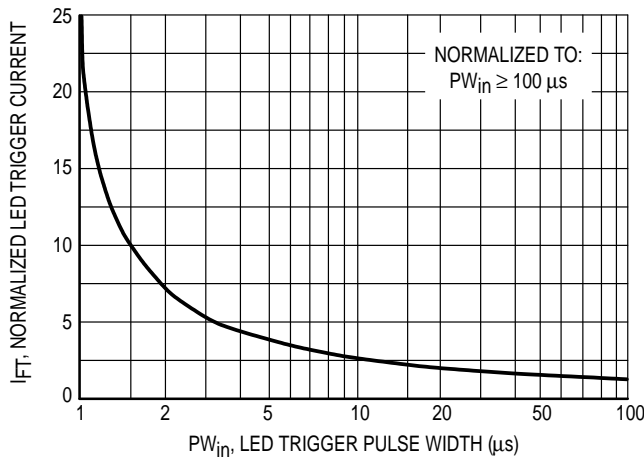

Figure 4. LED Current Required to Trigger versus LED Pulse Width
Random Phase Triac drivers are designed to be phase controllable. They may be triggered at any phase angle within the AC sine wave. Phase control may be accomplished by an AC line zero cross detector and a variable pulse delay generator which is synchronized to the zero cross detector. The same task can be accomplished by a microprocessor which is synchronized to the AC zero crossing. The phase controlled trigger current may be a very short pulse which saves energy delivered to the input LED. LED trigger pulse currents shorter than $100\text{ }\mu\text{s}$ must have an increased amplitude as shown on Figure 4. This graph shows the dependency of the trigger current I_{FT} versus the pulse width t (PW). The reason for the I_{FT} dependency on the pulse width can be seen on the chart delay $t(d)$ versus the LED trigger current.